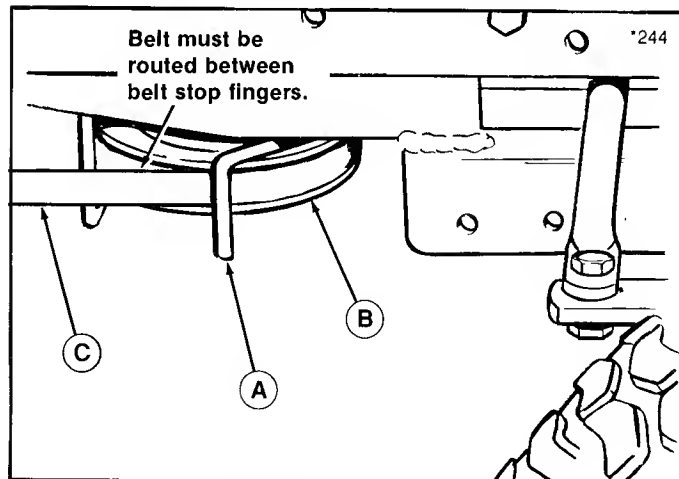

Figure 5. Right-Hand Belt Stop
6. Slip the mower drive belt onto the PTO pulley (C, figure 4). Loosen belt stops as necessary. The left-hand belt stop (A) is shown in figure 4. The right-hand belt stop is shown in figure 5. Make sure that the belt is routed between belt stop fingers. Check routing of belt by referring to figure 6.